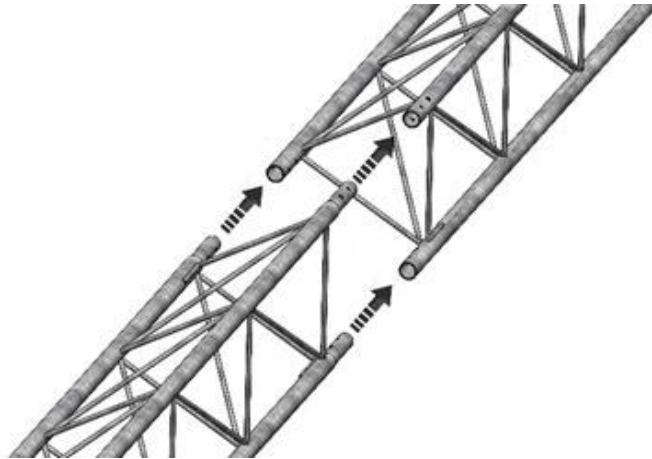

Figure 34 2 x 10' Rohn section assembly
1. Install any two 10' Kuva Tower sections together to form one 20' Tower section as per Figure 34.